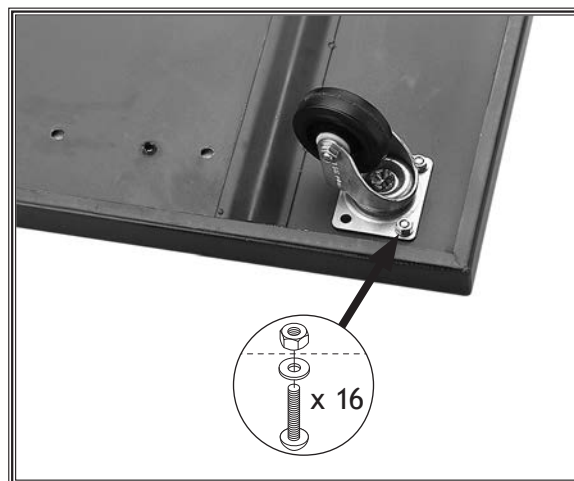

Figure 4. Swivel caster attached to base plate.
1. Install four swivel casters to base plate with (16) M6-1 x 10 Phillips head screws, (16) 6mm flat washers, and (16) M6-1 hex nuts, as shown in **Figure 4**.